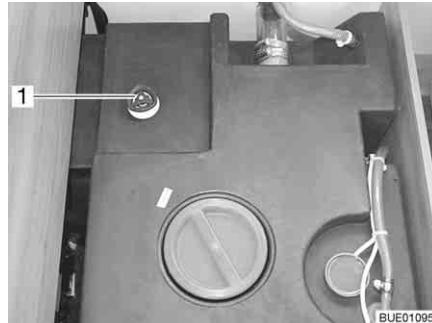

Fig. 205 Water tank with handle
- Turn the handle (Fig. 205, 1) on the water tank in a clockwise direction as far as it will go.
- Turn the handle (Fig. 205, 1) on the water tank in an anticlockwise direction as far as it will go. Excess water will drain away leaving 60 litres in the tank.